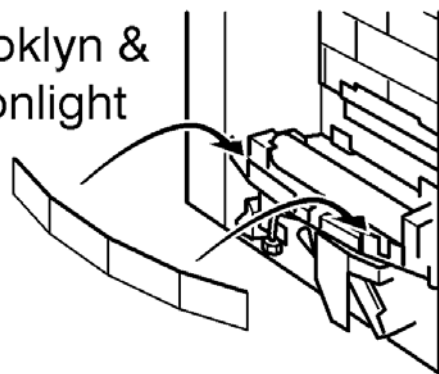

Figure 22. Fitting burner tray trim.
1. Fit the burner tray trim over the front rim of the burner tray. There are two tags which locate over the edge of the burner tray. Push the trim fully down (See figure 22).